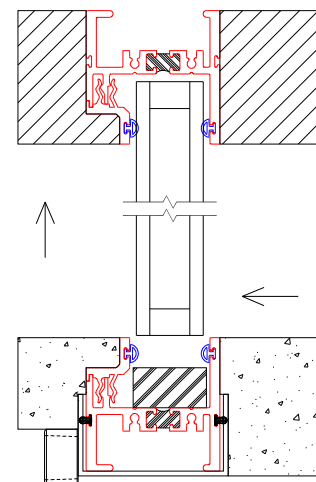

Figure A3:
4. Lift glass into the head providing clearance at the sill to swing glass out for removal (Figure A3).
3. Lift glass into the head providing clearance at the sill to swing glass out for removal (Figure A3).